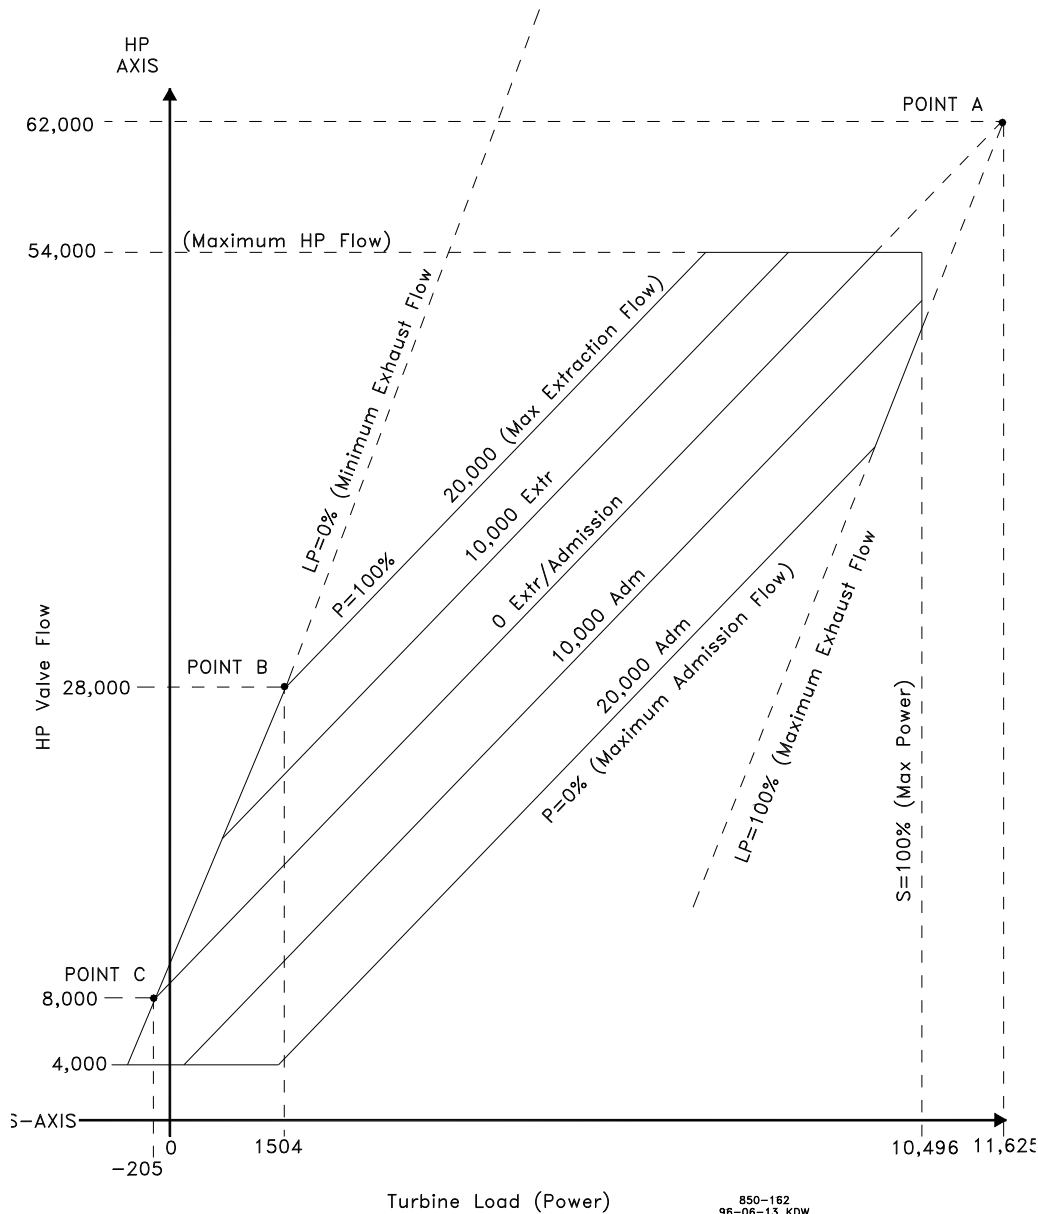

Figure 4-6. Typical Extraction & Admission Steam Map
Before a turbine's extraction/admission steam map can be programmed into the control, it must have the intersection points A, B, & C (refer to Figure 4-6).
If points B & C do not exist, your map will have to be modified to include points B & C. The LP=0 line will need to be created. To create the LP=0 line you must know the minimum required steam flow through the back-end of the turbine. In our example steam map (Figure 4-6) the minimum required flow was 8000 lb/h (3629 kg/h).
1. Extend the maximum extraction line. Refer to Figure 4-6.
The ten values needed can be taken from the converted steam map. An example has been provided below, using the steam map in Figure 4-6.